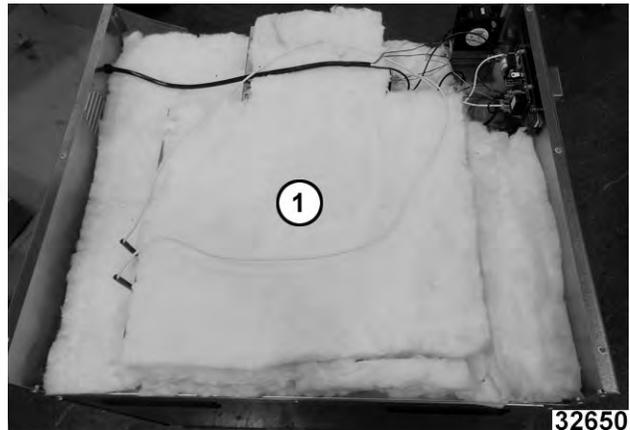

Fig. 10
2. Remove insulation (1, Fig. 10).